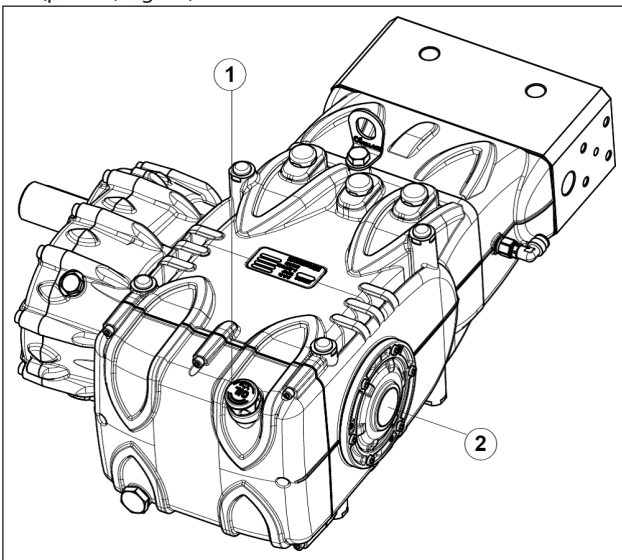

Fig. 16
5. Oil in the pump casing is at level, verified with a dipstick (pos. ①, Fig. 16) and exceptionally with a level indicator (pos. ②, Fig. 16).